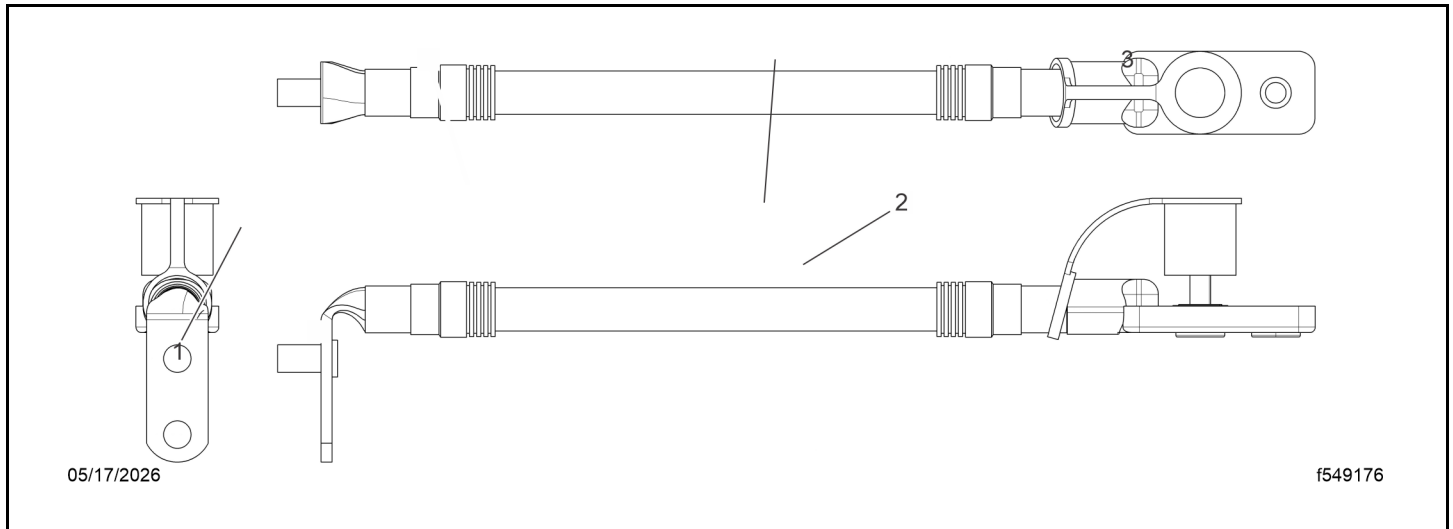

Fig 105, Jump-Start Cable Orientation
- g. Position the new terminal according to the orientation drawing. See Fig. Fig. 105.